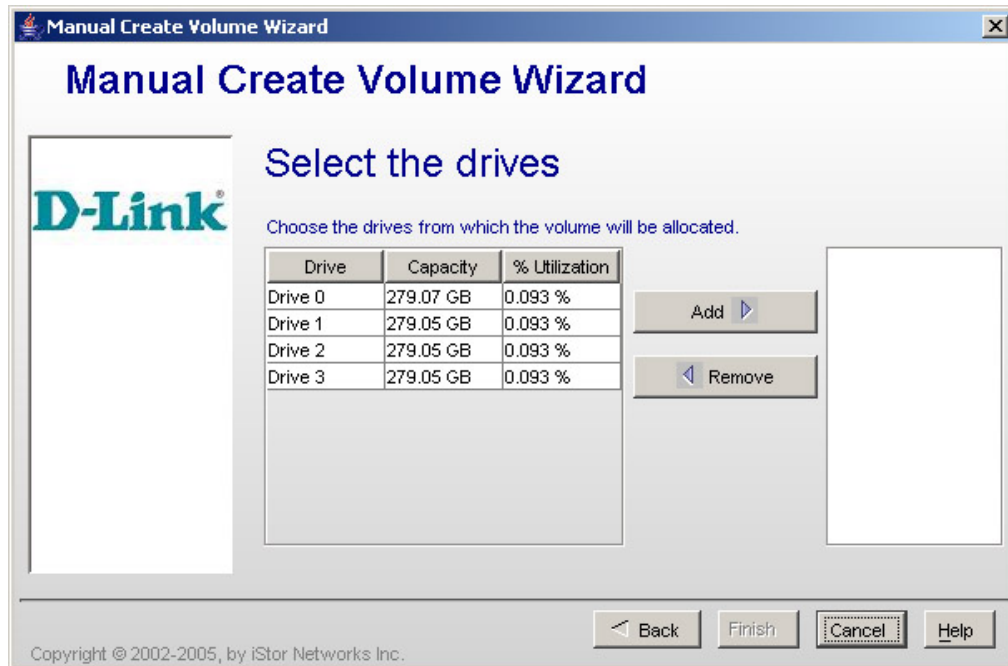

Figure 5-15 Manual Create Volume Wizard - Select the Drives Screen
7. Click the **Next** button. The **Select the Drives** screen appears (see Figure 5-15).